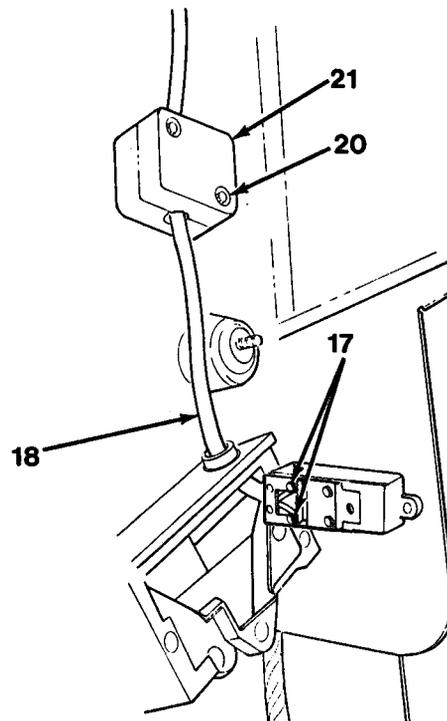

Figure 10-4
9. Loosen two screws (17) inside switch to disconnect cord (18, Figure 10-4).